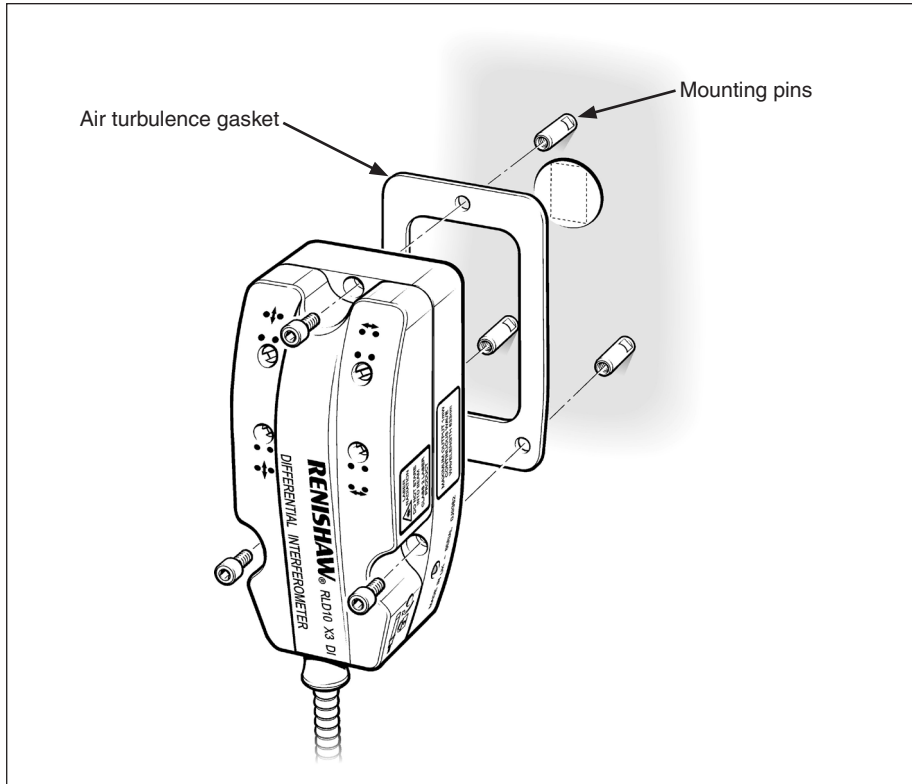

Figure 48 Air turbulence gasket
13. To minimise the effects of air turbulence, fit the air turbulence gasket over the three pins as shown in Figure 48.